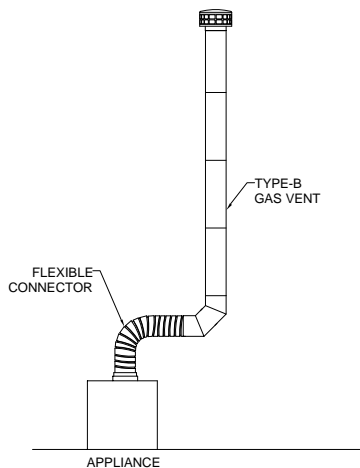

FIG. 4
- A single appliance (See **FIG. 4**) or